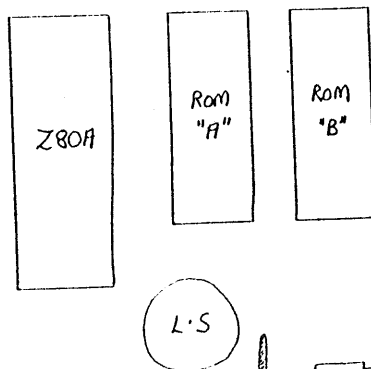

fig.3. LOCATION OF CAPACITOR
- 7) Finally, if all else fails try the mod quoted above. The relevant capacitor is shown in fig. 3. However, a word of warning. The printed circuit tracks on the Ace are very thin and unless you are an expert with a soldering iron will lift very easily, so if you are not an expert get someone else who is to do it for you!